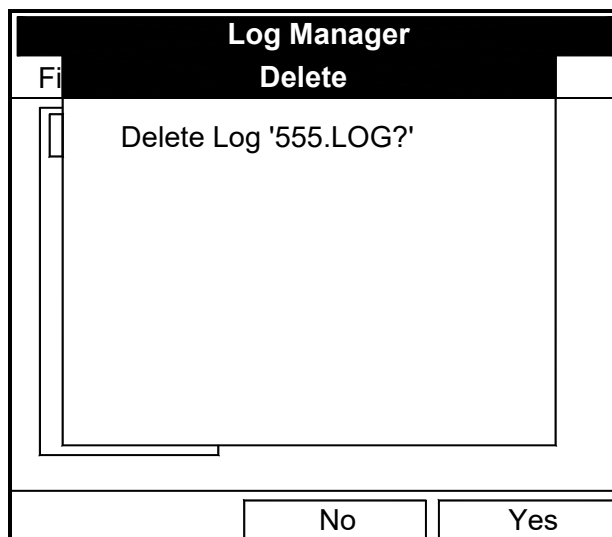

Figure 79: Delete Confirmation Window
3. A delete confirmation window opens, as shown in Figure 79 below. Press **[F2]** (No) to stop the deletion, or **[F3]** (Yes) to delete the log.